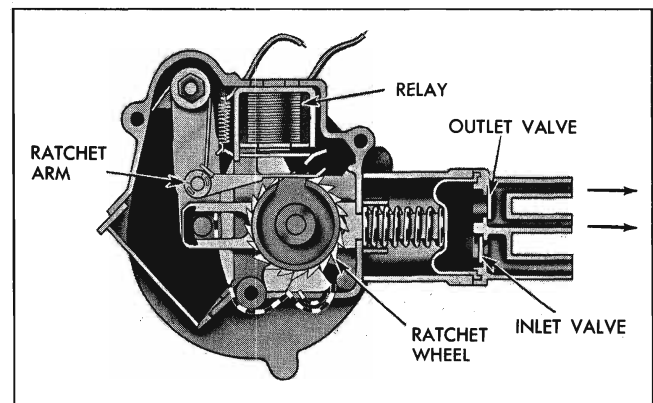
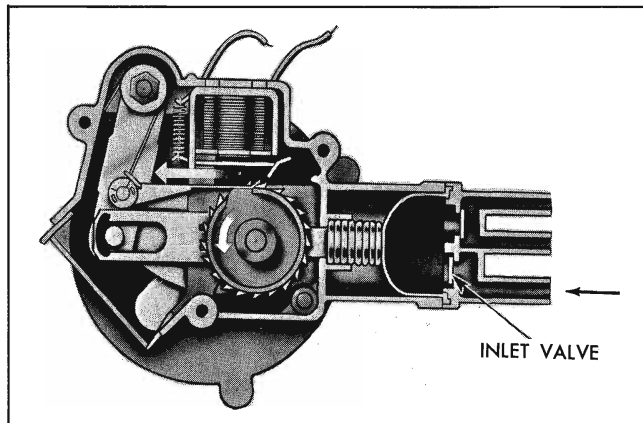

Fig. 11-107 Exhaust Stroke
Fig. 11-108 Suction Stroke
The plunger arm being spring loaded, now moves in a direction toward the bellows and collapses the bellows forcing the water in the bellows out through the outlet valves to the nozzles (exhaust stroke). See Fig. 11-107. At the same time the edge of the plunger arm slot moves up tight against the lever arm pin. As the rotor cam is turned each lobe (4) actuates the lever arm which in turn pulls the plunger arm back compressing the spring. While the plunger arm is being pulled back (suction stroke) water is drawn in through the inlet valve (Fig. 11-108). As the high point of each lobe is passed, the plunger arm spring pulls the plunger arm toward the bellows. This collapses the bellows and forces water out through the outlet valve (exhaust stroke).